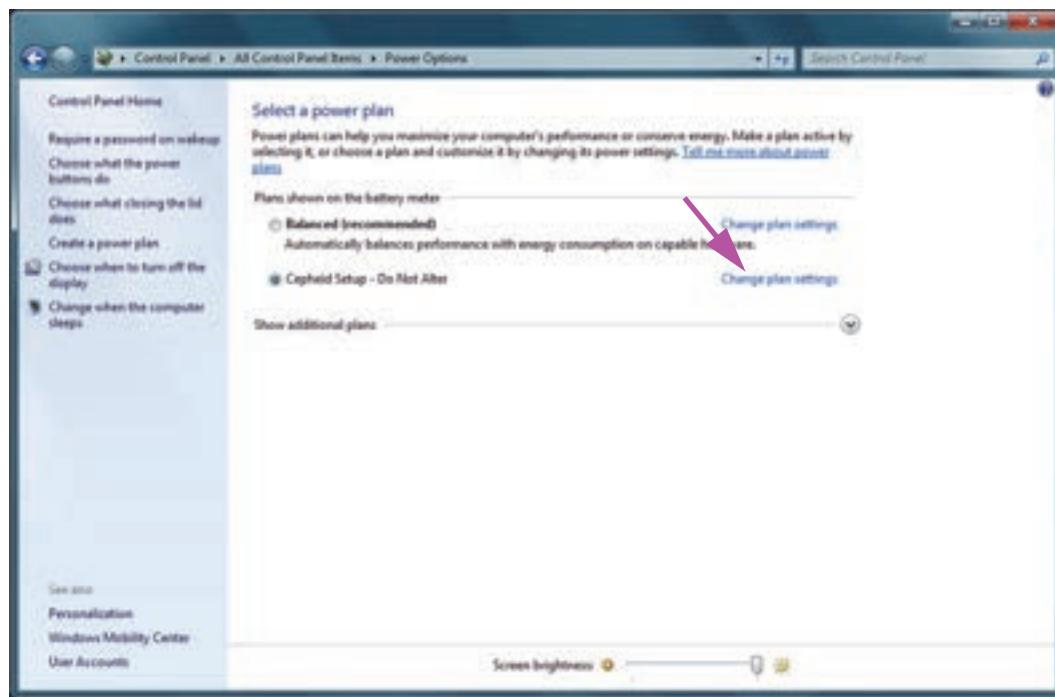
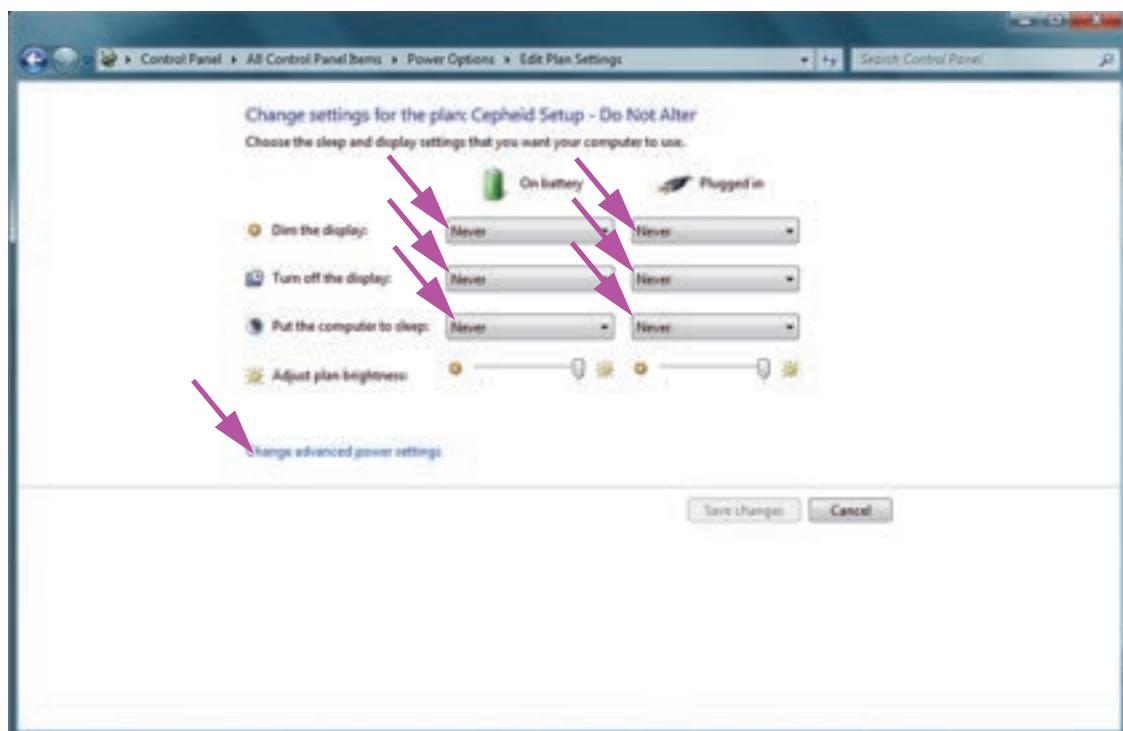
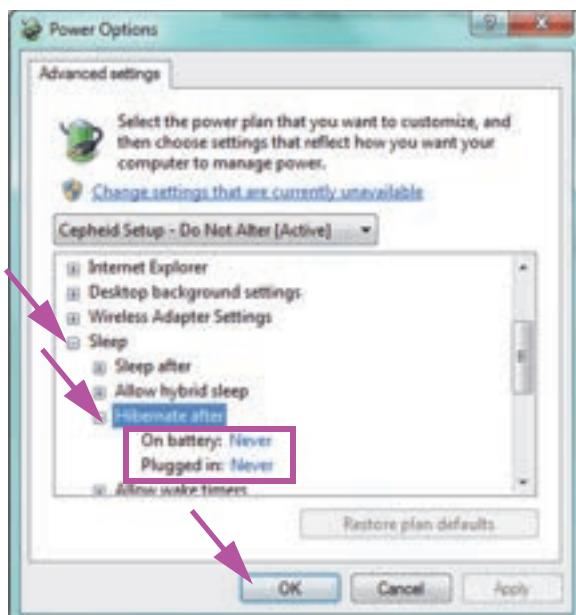

Figure 2-19. Power Options Window
Figure 2-20. Edit Plan Settings Window
Figure 2-21. Power Options—Advanced settings Window
3. Under the **Cepheid Setup—Do Not Alter** section, click **Change plan settings**. See Figure 2-19. The Edit Plan Settings windows appears. See Figure 2-20.
4. Make sure the **Dim the Display**, **Turn off the display** and **Put the computer to sleep** features are set to **Never** for both **On battery** and **Plugged in** options. See Figure 2-20.
5. Click on **Change advanced power settings** (see Figure 2-20). The Power Options Advanced settings window appears. See Figure 2-21.
6. In the Power Options Advanced settings window, double-click **Sleep** to expand the view, and then double-click **Hibernate after**. See Figure 2-21.
10. **Laptops Only:** Click **Cancel** to close the Edit Plan Settings window. The Power Options window is displayed (see Figure 2-19).